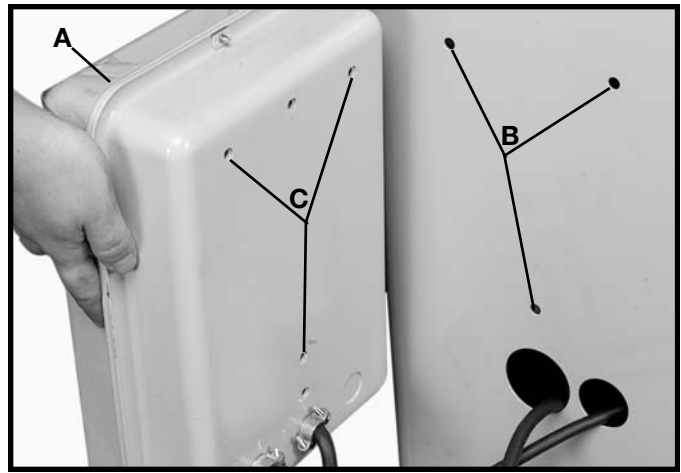

Fig. 7
If you purchased the machine with magnetic push button electrical controls, the saw is shipped with the starter box completely wired to the switch and motor. However, the starter box must be mounted to the saw cabinet. To assemble the starter box (A) Fig. 7, to the saw cabinet, proceed as follows:
1. Place a 1/4" lockwasher onto a 1/4-20x1/2" hex head screw, place a 1/4" flat washer onto hex head screw. From the inside rear of the saw cabinet, insert the 1/4-20 x 1/2" hex head screw into the hole (B) Fig. 7, in the cabinet. Repeat this process for the two remaining screws.
2. Line up the three tapped holes (C) Fig. 7, in the starter box with the screws and secure the starter box (A), to the saw cabinet.